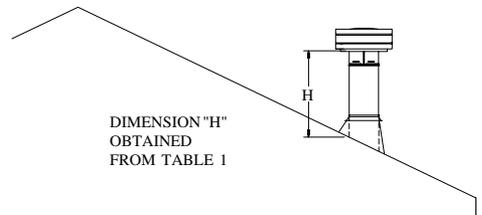

Fig 16
Step 8. Continue to add Pipe Sections until the height of the Vent (before adding the Cap) meets the minimum building code requirements described in Fig 16. Note that for steep roof pitches, the vent height must be increased. In high wind conditions, nearby trees, adjoining